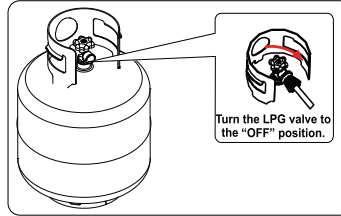

Fig 15
2. Close supply valve on LPG bottle. (See fig 15)